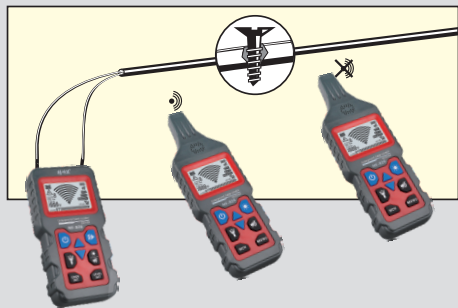

Fig 3-2-2
- ※ Connect the transmitter according to Fig.3-2-2;